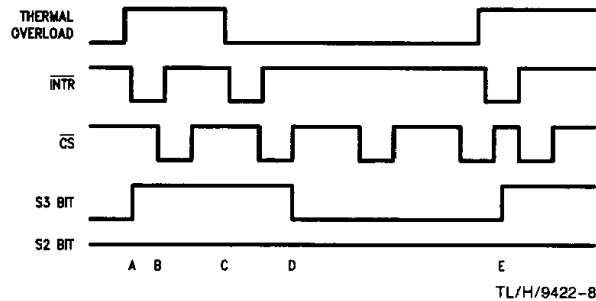

FIGURE 7. Typical Thermal Overload Detection Timing
A typical example of thermal overload detection timing is illustrated in Figure 7. When a thermal overload is detected, S2 is set low and S3 is set high (A), forcing the device into the Power-Denial mode, and  $\overline{\text{INTR}}$  is set low. The interrupt remains active until  $\overline{\text{CS}}$  goes low, clearing  $\overline{\text{INTR}}$  (B). As long as the thermal overload condition exists, the power denial mode cannot be reset by a write operation (B). When the thermal overload condition clears, the  $\overline{\text{INTR}}$  will again be set